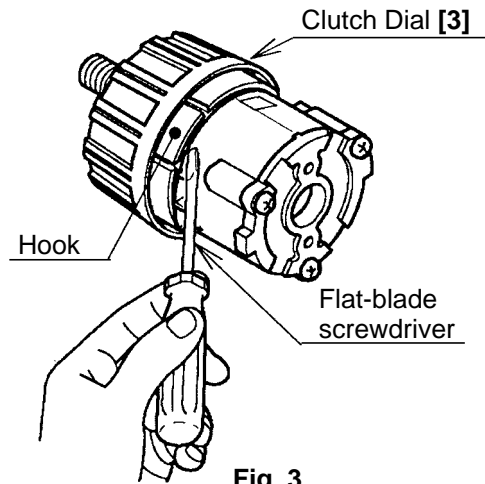

Fig. 3
(4) Disassembly of the clutch unit
- (a) After press up the hook of Clutch Dial [3] with the small flat-blade screwdriver, the Clutch Dial [3] and Click Spring [4] can be taken out as they are. (See Fig. 3.)
- (b) Turn the Nut [5] counterclockwise and remove it from the Gear Case [8], then remove the Spring [6], Washer (D) [7], and the sixteen Stall Balls D4 [9] from the Gear Case [8]. Take care not to lose the sixteen Steel Balls in this operation.